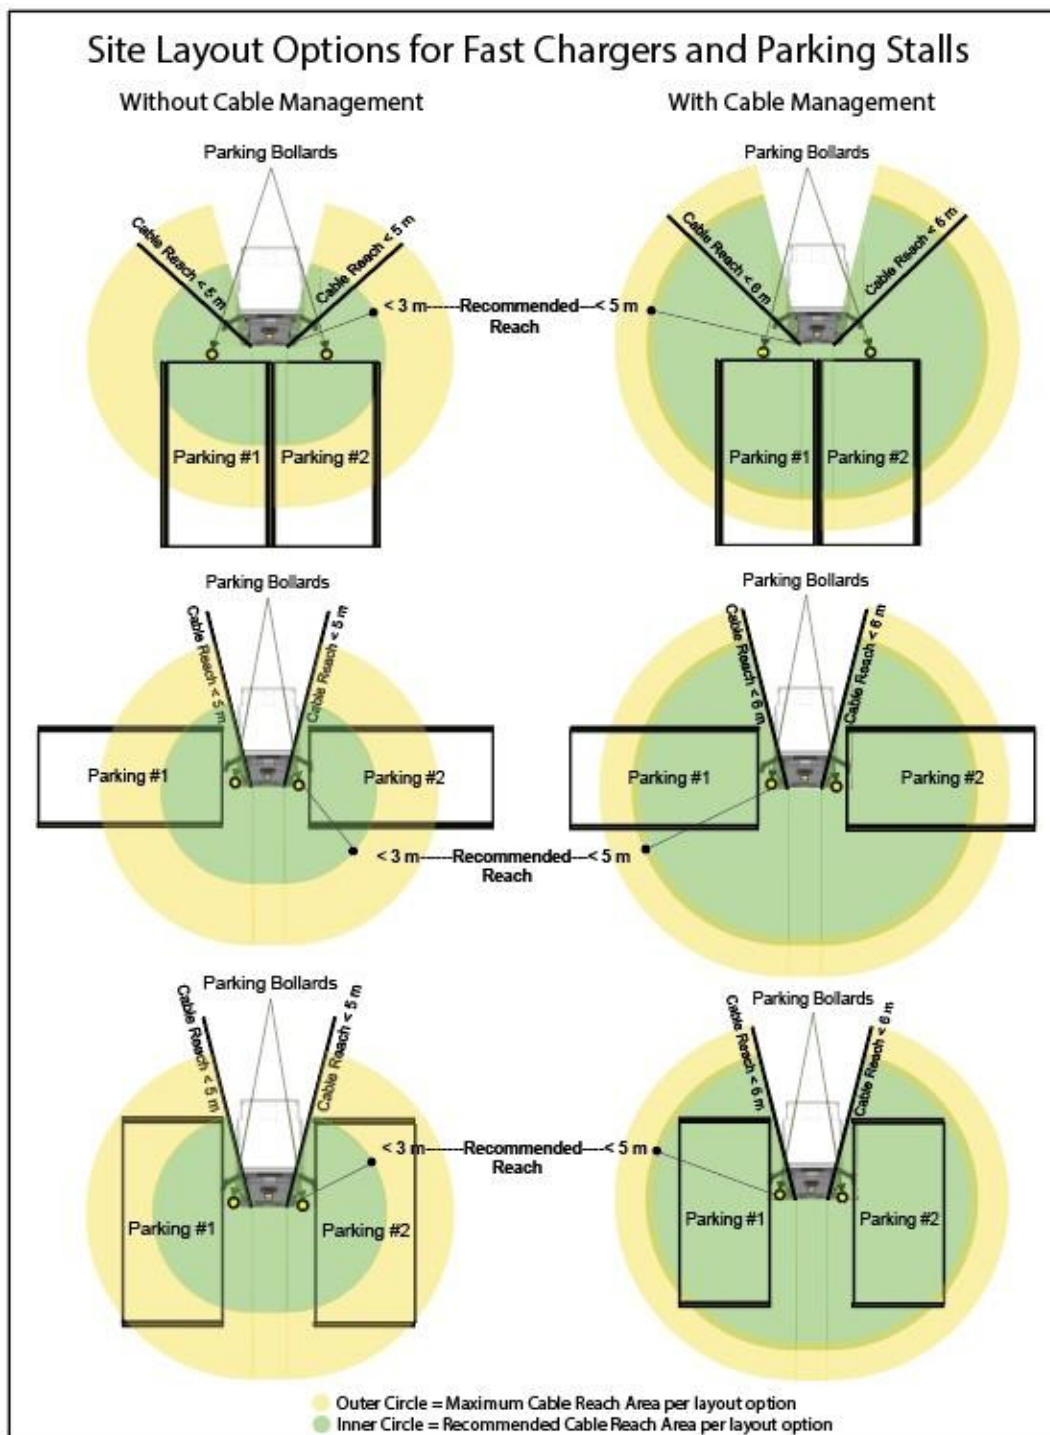

Figure 3 – Layout options for Fast Charger's Parking Stalls showing Cable Reach areas
2. Become familiar with the charger's recommended (green) cable reach areas shown in Figure 3 for charger models without and with cable management, then select the parking stall layout needed for this installation.